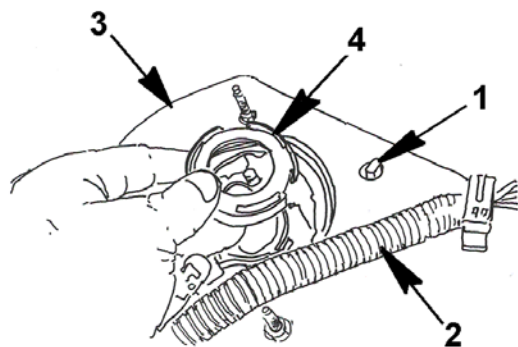

Figure 46 Seal Removal
5. Remove seal (Figure 46, Item 4).